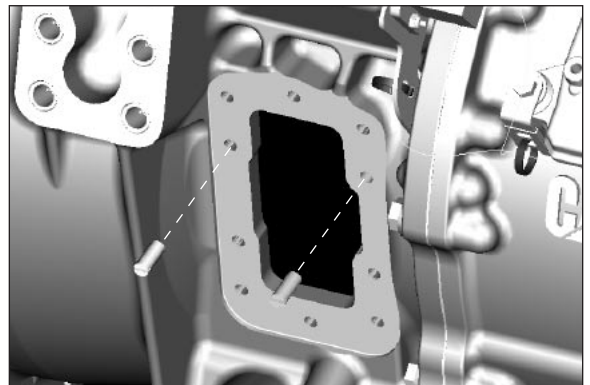

Fig. 3
3. Using a screwdriver, install the guide pins until they bottom out (**Fig. 3**) (see page 34).